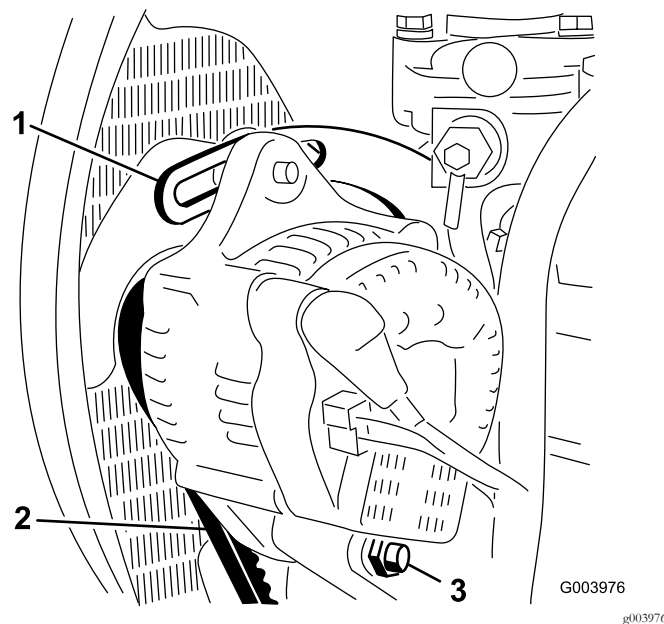

Figure 48
2. Check the tension of the alternator belt by depressing it (Figure 48) midway between the alternator and the crankshaft pulleys with 10 kg (22 lb) of force.
3. Loosen the bolt securing the brace to the engine (Figure 48), the bolt securing the alternator to the brace, and the pivot bolt.